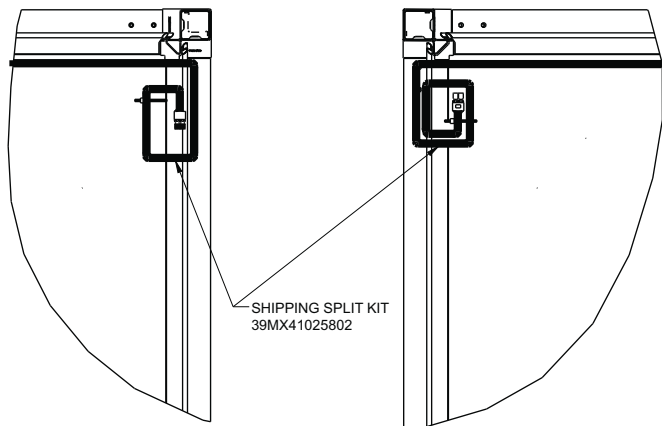

Fig. 26 — Power Harness in Shipped Position at Horizontal Split
- Find the Power Plug harness and/or Control Plug harness in its position secured for shipment. (Fig. 26).